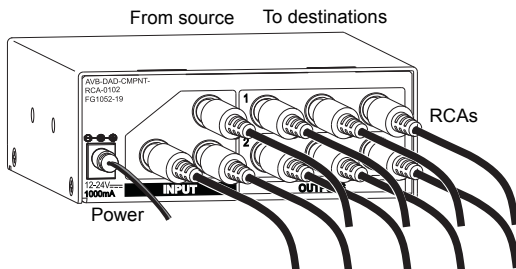

FIG. 5 Attach input and output connectors (model with RCA connectors shown)
1. Fasten the BNC or RCA connectors from source and destination devices onto BNC or RCA connectors on module (FIG. 5 shows RCA connectors).